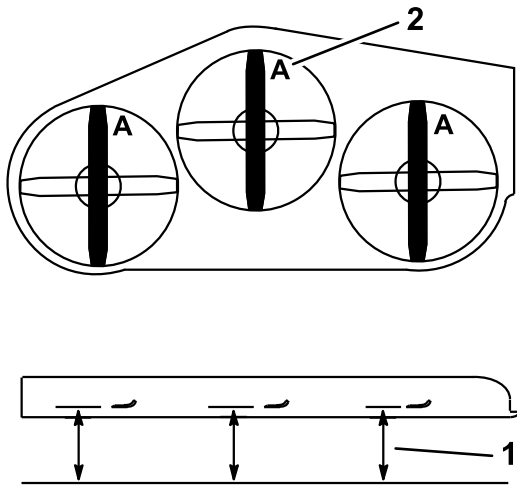

Figure 95
3. Rotate the blades until the ends face forward and backward (Figure 95). Measure from a level surface to the cutting edge, position **A**, of the blades (Figure 95). Note this dimension.